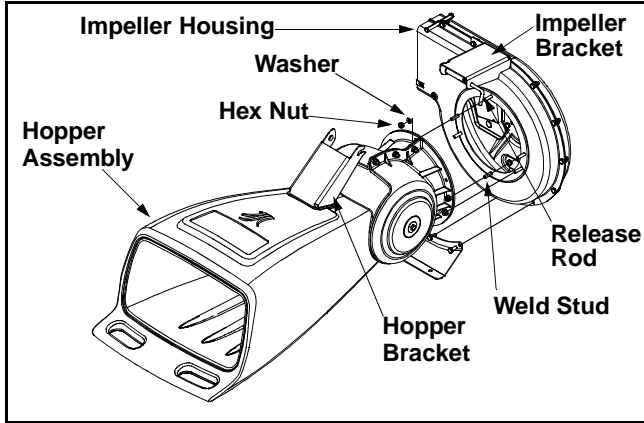

Figure 2
- Remove six hex nuts and washers from the weld studs on the impeller housing. Leave the support plate in place on the weld studs. See Figure 2.
- Lift hopper assembly up to impeller bracket assembly and slide the release rod out slightly to hook the hopper bracket onto the rod. See Figure 2.